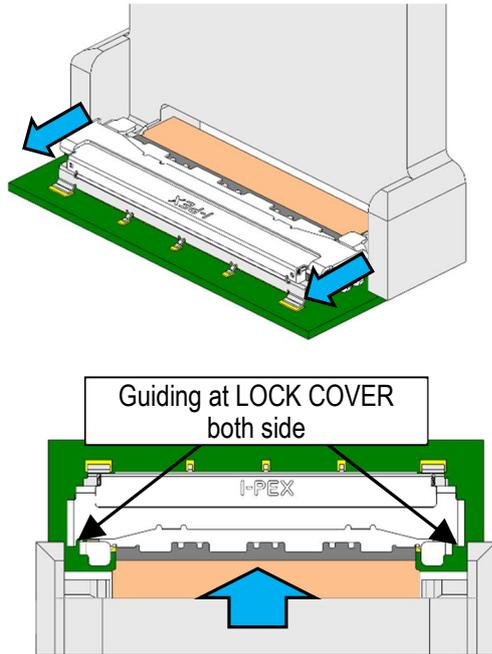

Fig.14-1
- ① Guide the Unlock jig to both side of the LOCK COVER as shown in Fig. 14-1, and set the JIG actuator at the bottom of the LOCK lever.
- ② If Unlock jig set is OK, pull up on Unlock jig to release the Lock
If a Bad condition is encountered, start the process over from the condition shown in Fig. 14-1.